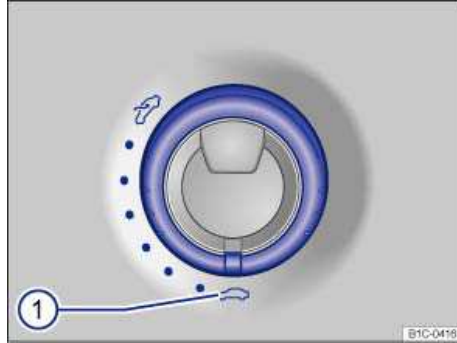

Fig. 33 In the headliner: Sunroof rotary switch.
- The switch must be rotated to the “Closed” position ⇒ fig. 33 \(1\).